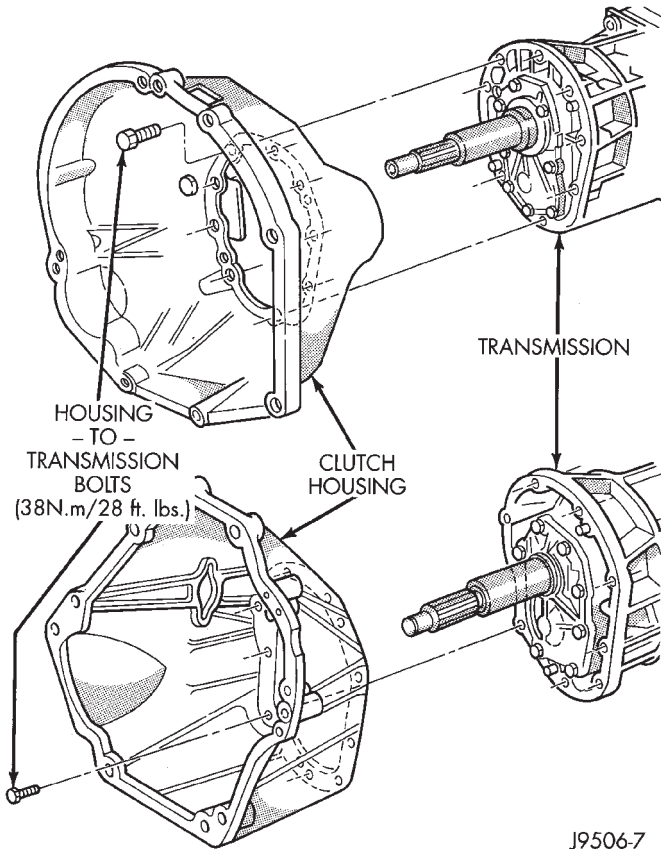

Fig. 18 Clutch Housing
- (1) Drain transmission lubricant, if necessary.
- (2) Remove release bearing and lever.
- (3) Remove clutch housing bolts and remove housing (Fig. 18).
- (4) Remove vehicle speed sensor and speedometer adapter, if necessary.
- (5) Remove bolts holding shift tower to transmission case.